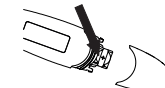

Figure 4
- Gently pull out plastic circuit board with battery chamber approximately 1 cm (slightly less than 1/2 "). (See Figure 4)